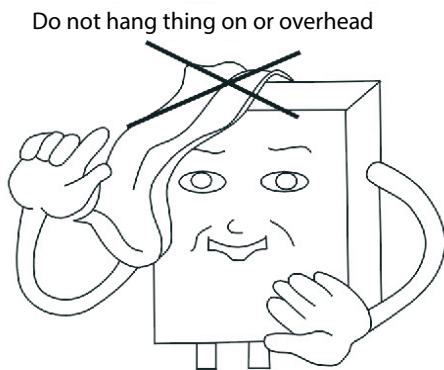

Fig.17
- Do not place towels or clothes on top of the water heater. (Fig. 17)